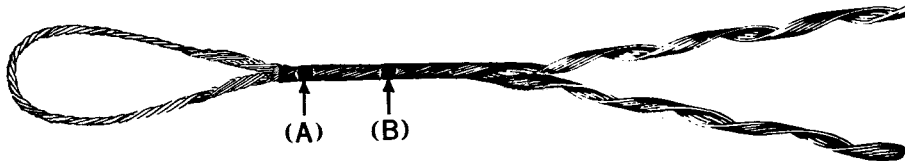

Fig. 4—B Strand Grip
3.02 B strand grips are available in sizes corresponding to standard suspension strand. The size of the strand grip is indicated by the color of the paint marking at the starting or crossover point as illustrated in Fig. 4. The color mark **A** indicates the starting or crossover point